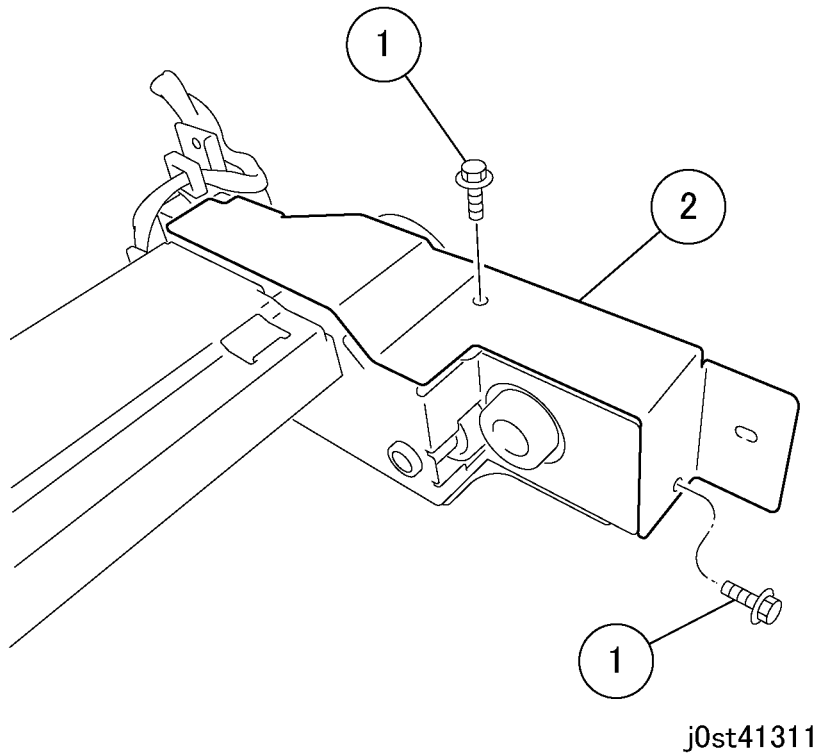

Figure 4 Removing the Tray 3 Feeder (j0st41311)
6. Remove the Tray 3 Feeder. (Figure 4)